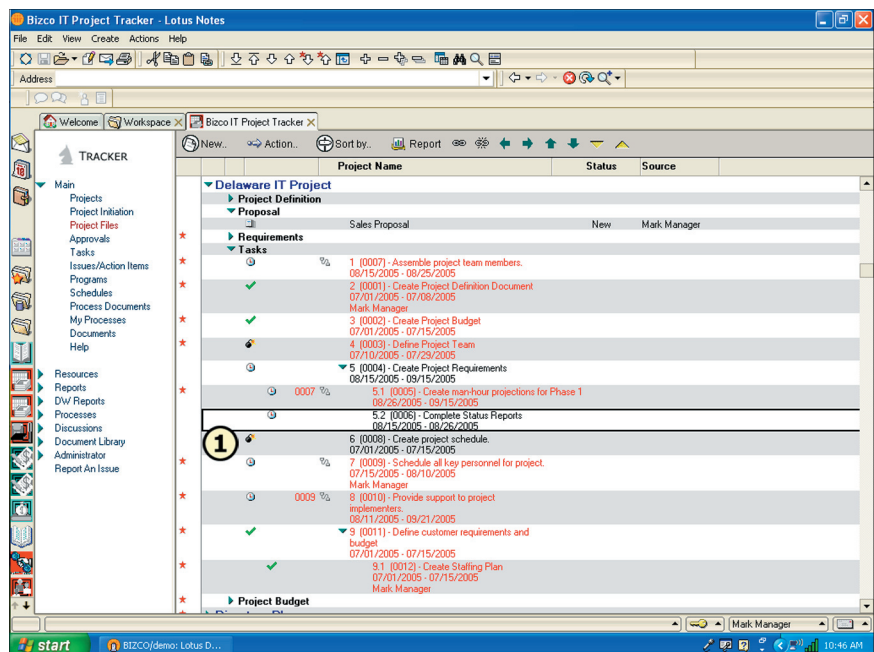

Figure 3: Outdenting tasks
5.3 will result in the following display (see Fig. 3, #1). Notice the new outline numbering for all tasks, the fact that the task that used to be numbered 5.3 is now 6 and that it does not appear as a child of task 5.